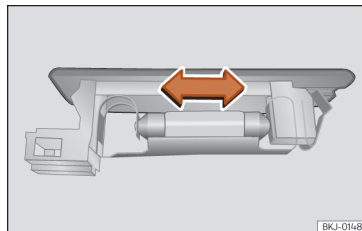

Fig. 114 Boot light.
- Press the bulb sideways and remove it from its housing >>> **Fig. 114**.